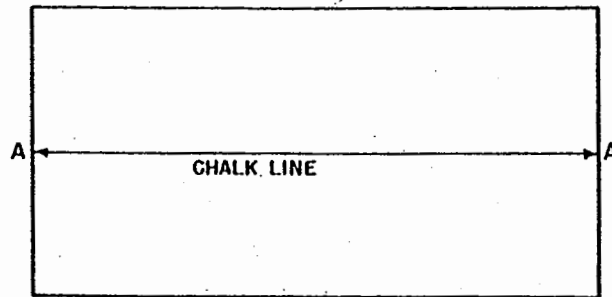

FIG. 1
- 3 - CHALK LINE ROOM BOTH WAYS AS SHOWN IN FIGS. 1 & 2.